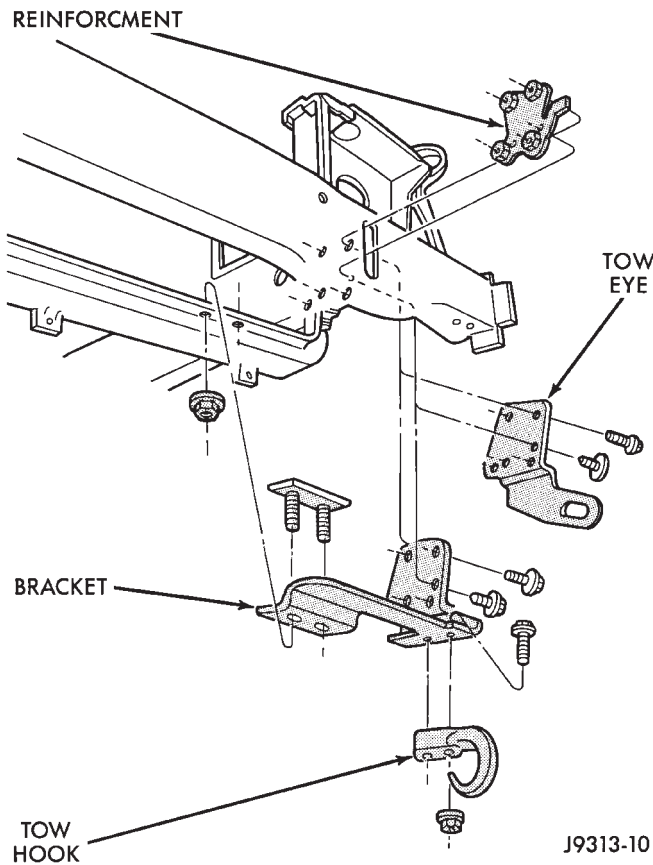

Fig. 4 Tow Hook Removal
- (1) Remove the nuts and bolts that attach the tow hooks to the lower crossmember (Fig. 4).
- (2) Remove the tow hooks from the lower crossmember (Fig. 4).
- (1) Position the tow hooks at the lower crossmember. Install the bolts and nuts that attach tow hooks (Fig. 4). Tighten the retaining nuts to 100 N•m (74 ft-lbs) torque.